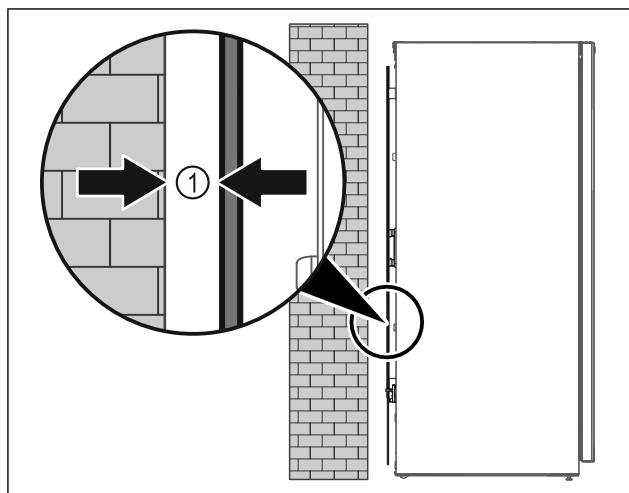

Fig. 65
- Set up the appliance either free-standing or directly against a wall at a minimum distance of 5 mm Fig. 65 (1).